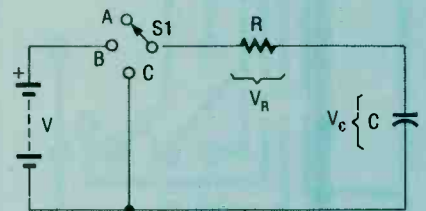

Fig. 1. Depending on the position of S1 the capacitor will either do nothing (A), charge (B), or discharge (C).
**From the Beginning.** Consider Fig. 1. Assume that switch S1 is in position A so the circuit is open, as shown, and there is initially no charge stored in capacitor C (i.e.  $V_C = 0$ ). If switch S1 is moved to position B, voltage V is applied to the RC network. The capacitor begins to charge through resistor R with current from the battery, and  $V_C$  begins to rise towards V (see curve  $V_{CB}$  in Fig. 2). Electronics textbooks tell you that the instantaneous capacitor voltage is found from:
Let's try answering a simple question to show us how to use Equation 1. Assume an RC network (like the one in Fig. 1) is connected to a 12-volt source. What RC product will permit capacitor voltage,  $V_C$ , to rise from 1 to 4 volts in 200 ms? From the way the question is phrased we know that:  $V = 12$  volts,  $V_{C1} = 1$  volts,  $V_{C2} = 4$  volts, and  $t = 0.2$  seconds. Plugging those values into Equation 1 we get: